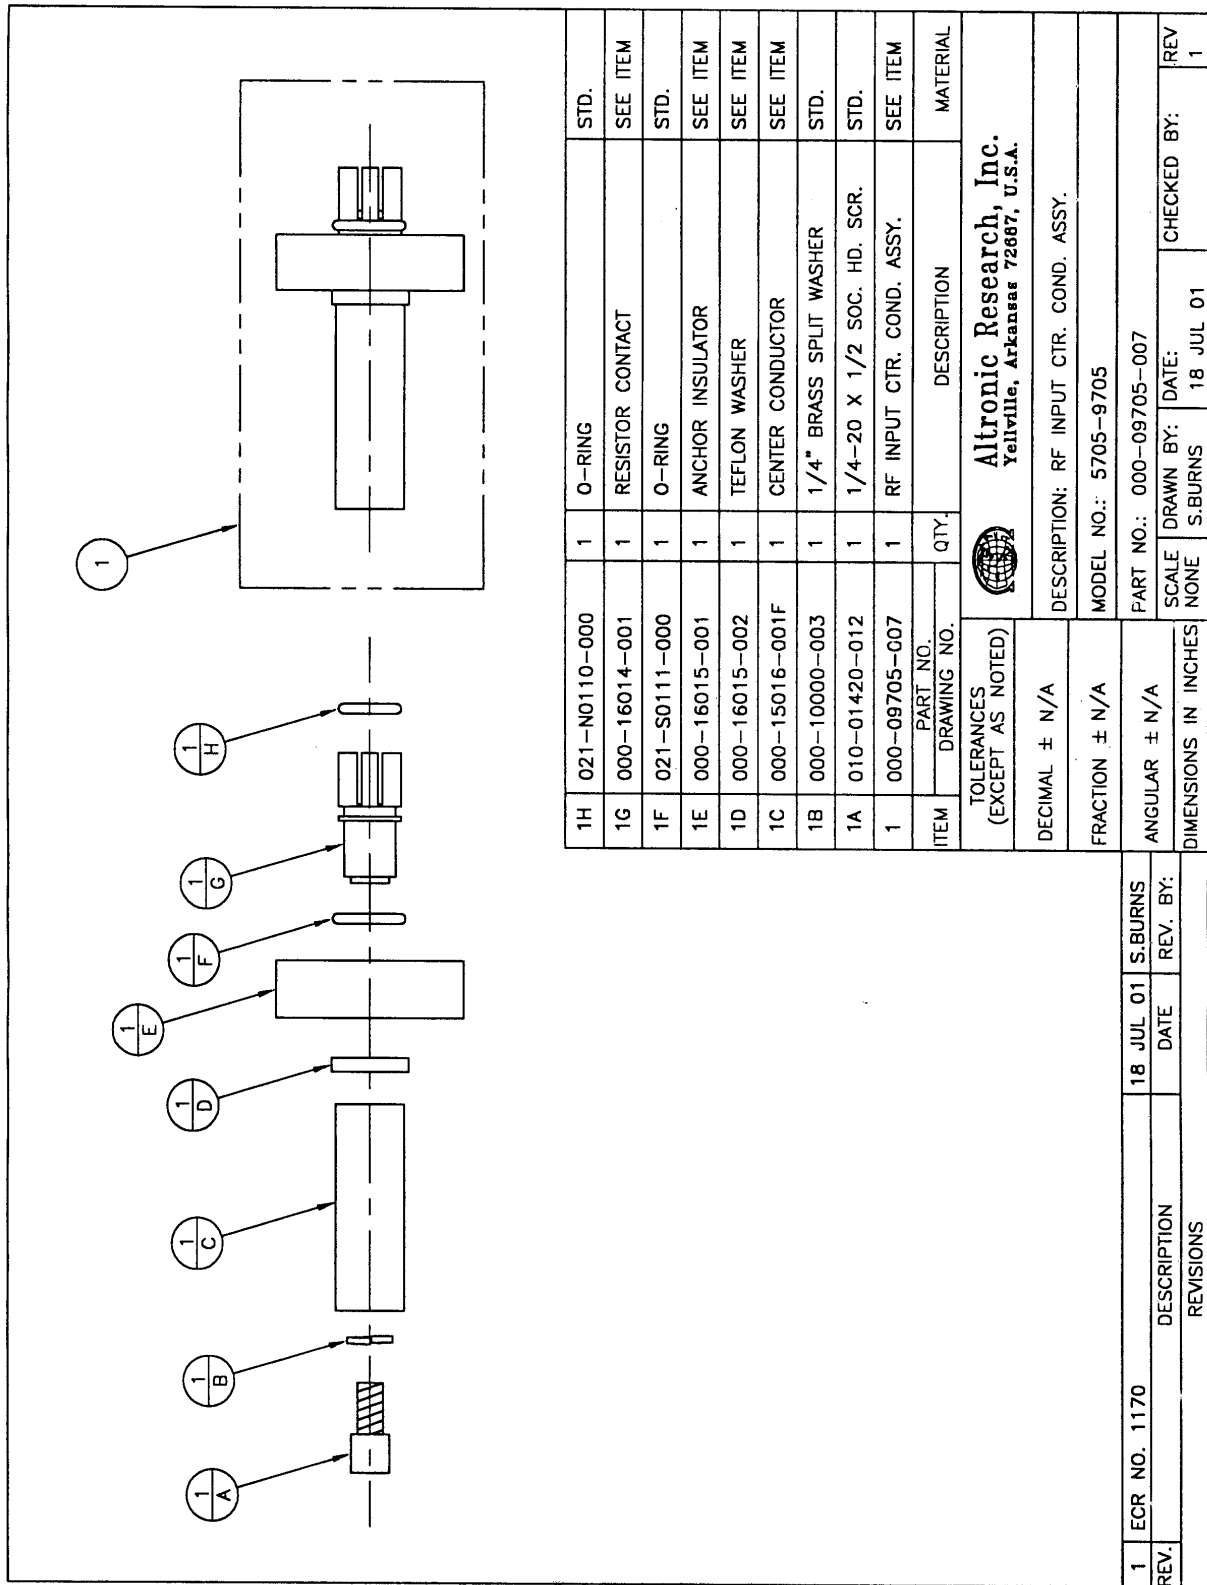

Fig. 16
5. **Removal of RF Input** - (Refer to Figure 15) To remove the RF input line adaptor flange, remove four 10-24x 3/8" socket head screws (item 2) that secure the line adaptor flange (item 1) to the load body housing (item 3, Fig. 14). The RF input assembly consisting of the center conductor, anchor insulator and front resistor contact (items C, D, E, F, G, H, I and J) will normally remain in the load body. Grasp the center conductor (item 3) by hand and attempt to pull the input assembly out of the load body using slight side to side motion while pulling. If strong resistance is encountered, it may be necessary to chill the load to allow the anchor insulator to shrink away from the load housing. This can be done by placing the load in a freezer, or packing the load in ice for 20 to 30 minutes. Once the anchor insulator has shrunk away from the load housing, the RF input assembly should be easily removed. At this point of disassembly, all components of the load can be inspected or replaced as needed. Reassembly should be done in the reverse order of sequence. See Figure 16 for individual component identification.